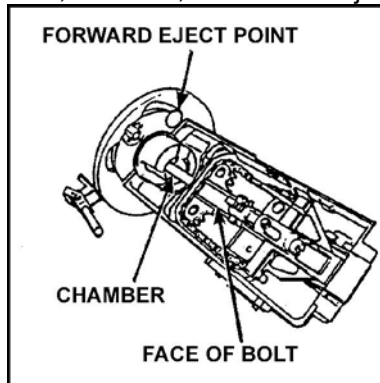

Figure 10. Face of bolt, chamber, and forward eject port.
(1) Check the face of the bolt, chamber, and forward eject port (Figure 10).